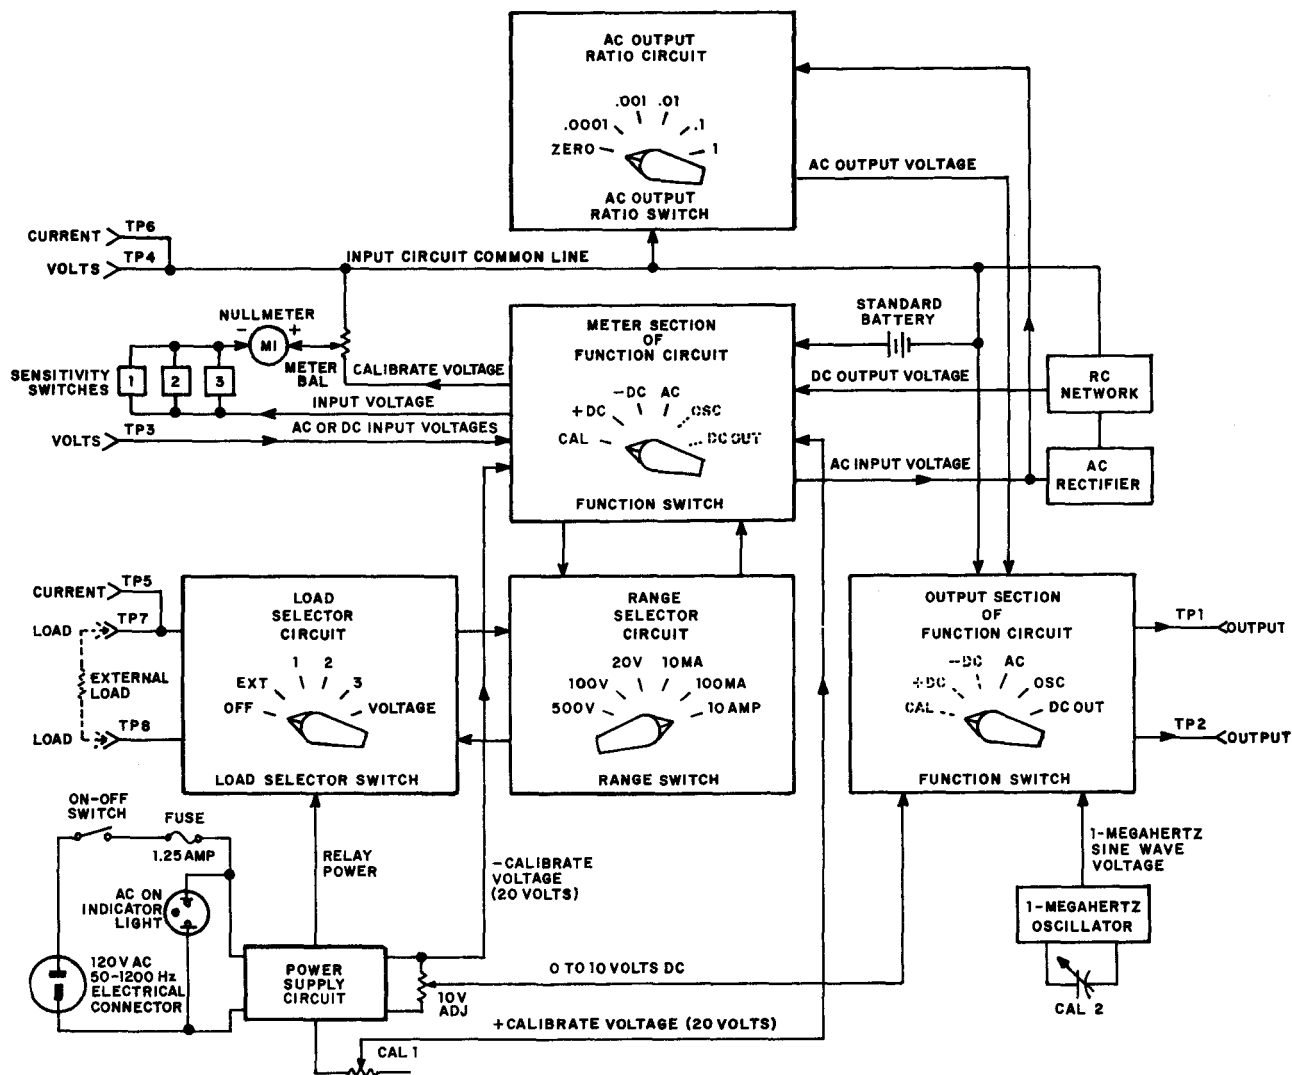

Figure 7. Electrical test set--block diagram.
(2) Power supply circuit. A block diagram of the test set is shown in figure 7. The internal power supply operates from 120 volts AC, 50 Hz to 1.2 KHz. When the ON-OFF switch is closed, AC ON indicator light illuminates and power is applied to the power supply. The power supply produces relay power which is applied to the load selector circuit to condition relays for an external load. Another voltage produced is the 0 to 10 volt which is used to compare with the standard battery voltage. Finally, the power supply produces a 20-volt calibrate voltage which is applied to the function circuit.
(3) Calibration. Before each use, the
maintenance technician should check the standard battery to see that it was calibrated by a calibration team within the past 90 days. The voltage output of the standard battery is recorded on the battery by the calibration team and is normally near 10 volts. With the FUNCTION switch (fig 7) in the CAL position, the standard battery voltage is applied to one side of the null meter while the plus calibrate voltage is applied to the other side and CAL 1 variable resistor is adjusted for a zero reading on the null meter. This calibrates the test set.
(4) Meter circuit. Input voltages to be measured are applied to TP3 (fig 7), through the meter section of the FUNCTION switch, through three pushbutton SENSITIVITY switches, to one side of the null meter. Each of the three SENSITIVITY switches provides a different resistive input network to the meter and switch 3 gives maximum meter sensitivity. A calibrate voltage from the power supply is applied to the other side of the null meter through the meter BAL variable resistor. The meter BAL resistor contains a calibrated dial. This dial is adjusted until the meter is balanced (reads zero) and the voltage measured is determined from the dial setting.
(5) Range selector circuits. This circuit consists of a six-position switch (fig 7) and associated voltage dropping resistors. It functions along with the load selector to provide the correct circuit path to the null meter. When voltage is measured, the dropping resistors supply only a portion of the input to the meter. For current measurements, additional resistors are added into the circuits by the LOAD SELECTOR switch.
(6) Load selector circuit. The load selector circuit (fig 7) operates in conjunction with the range selector to provide the correct circuit path and resistive load for the selected current range. The current to be measured is applied to TP5 and TP6. Positions 1, 2, and 3 correspond to positions 10 ma, 100 ma, and 10 amp of the range selector which determines the maximum current that can be measured with the null meter. The VOLTAGE position is used when measuring voltage and EXT position is used for connecting an external current at TP7 and TP8. When placed to OFF, the switch breaks all voltage and current circuits to the null meter.
(7) Function circuit. This circuit is divided into a meter section and an output section. The meter section provides various connections to the null meter, while the output section provides output circuit connections to TP1 and TP2. In the CAL position, the standard battery and pulse calibrate voltages are applied